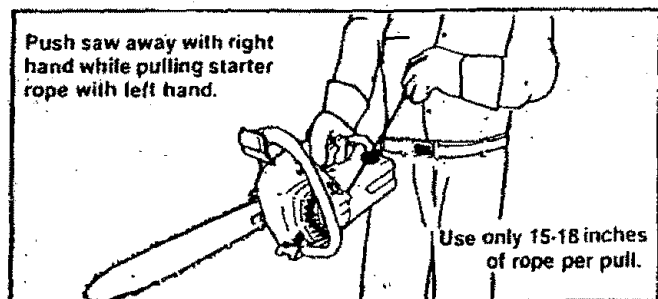

Figure 17
- d. Squeeze trigger with your right hand while pushing saw away from you and pulling the starter rope with your left hand. Figure 17.